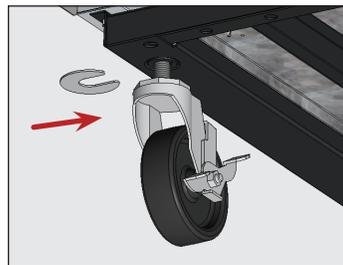

Fig. 6. Insert the castor shim(s). be sure to tighten the castor stem.
5. On the low end of the appliance, loosen the castor bolt enough to slide provided castor shims between the castor bearing race and the bottom rail of the appliance. See fig. 6.
6. Install the desired number of shims. See fig. 6.
- **DO NOT** use more than four (4) shims on a castor.